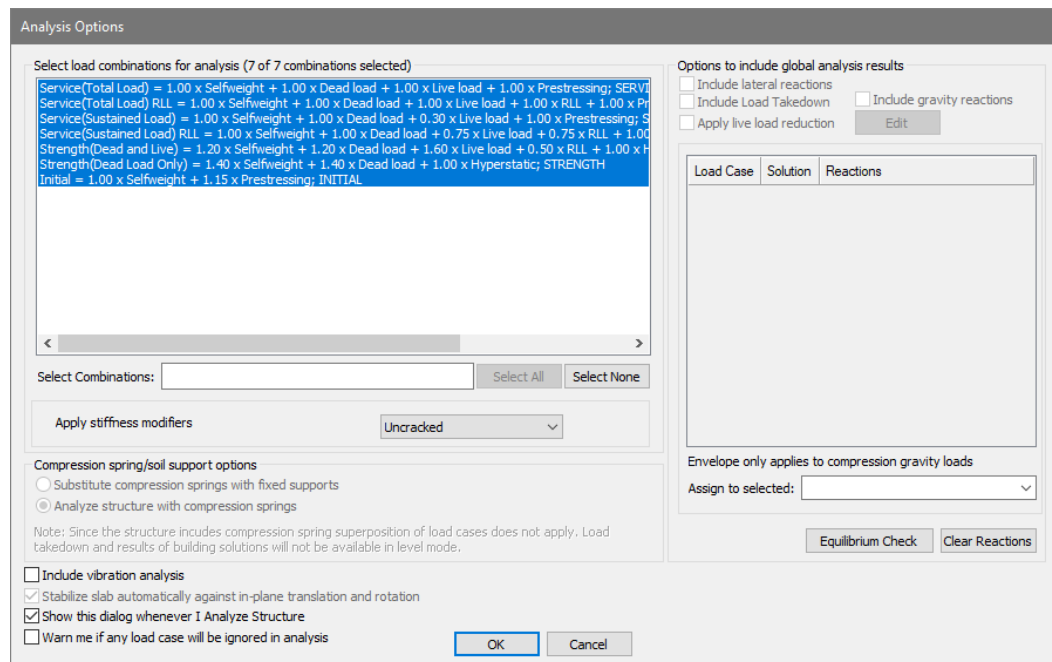

Figure 6-4
- Go to *Analysis* → *Analysis* and click on the *Execute Analysis*  icon. This will bring up the Analysis Options window as shown in **FIGURE 6-4**.